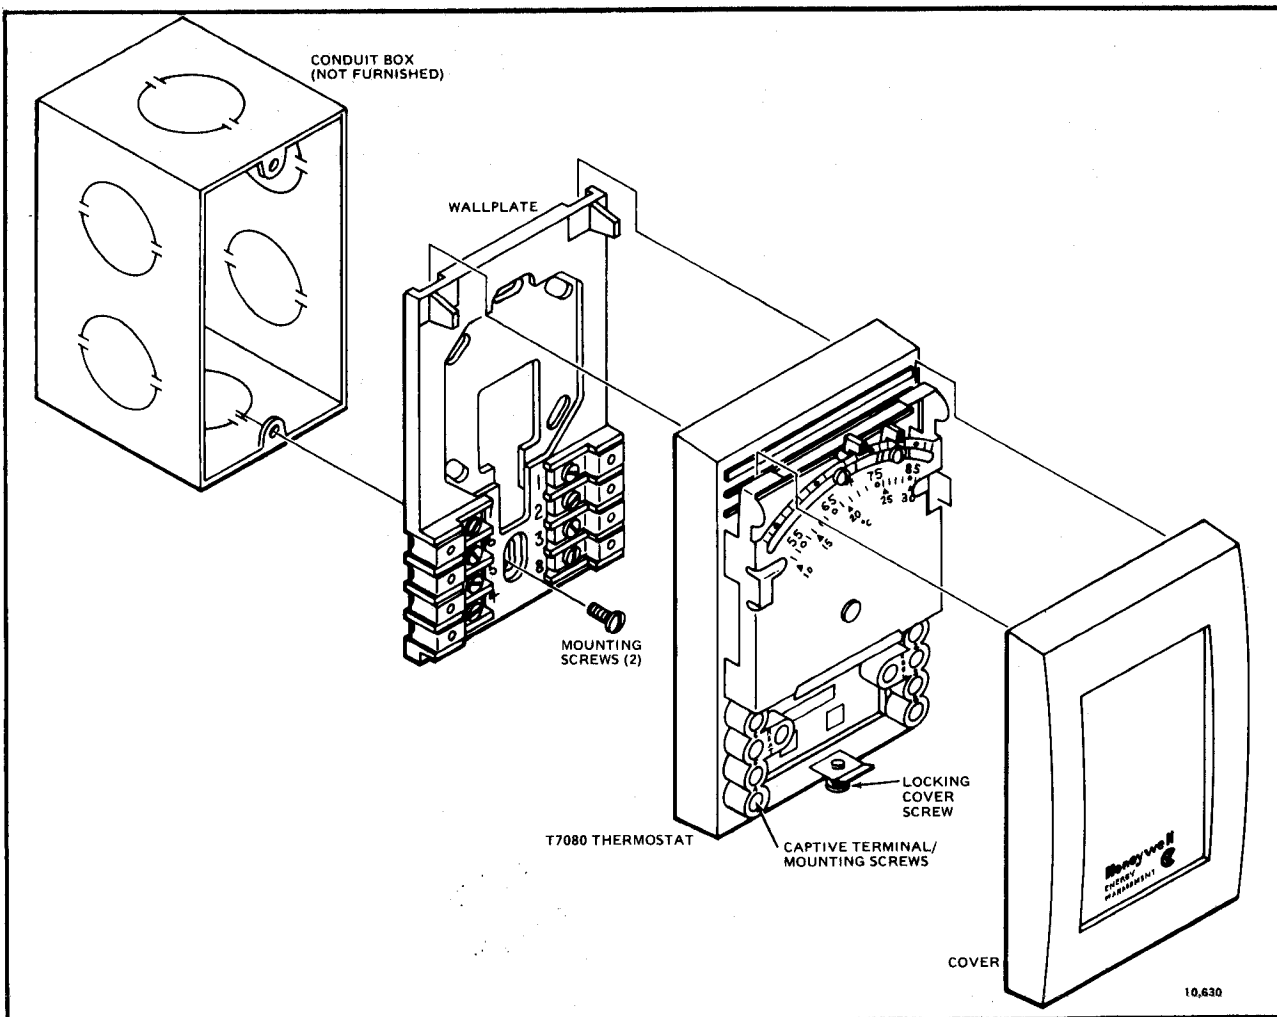

FIG. 3—MOUNTING THE T7080 THERMOSTAT ON AN OUTLET BOX.
2. Fasten the thermostat wallplate to the outlet box or flat surface. Two No. 6-32 UNC 5/8 in. [15.9 mm] long screws are provided for outlet box mounting. See Fig. 3.
analyzer which uses the voltage to switch the appropriate number of heating or cooling stages on or off to satisfy the zones' demands (Fig. 3).